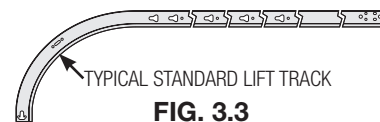
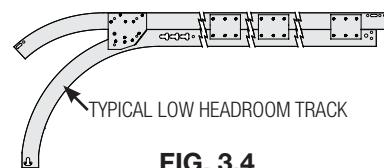

FIG. 3.3
FIG. 3.4
**NOTE:** Refer to reference illustrations in FIG. 3.3 and FIG. 3.4, showing the difference between the standard lift and low headroom track system.